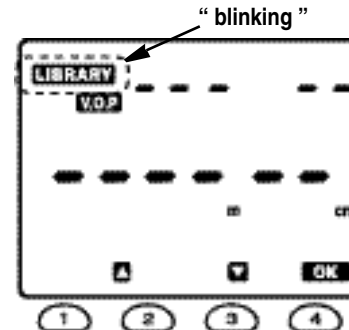

Fig. 3
3. Press the SELECT button then the Meter will display both the LIBRARY symbol (blinking) and the V.O.P symbol (see Fig. 3).
5. Press the OK (4) button to set the Meter to the V.O.P adjusting mode, when the LIBRARY symbol will disappear, the V.O.P symbol will stop blinking, and the "UOP" segments will start to blink.